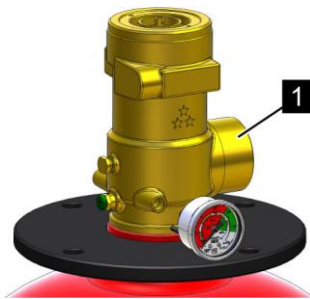

Fig. 148: Fit the anti-recoil cap
17. ➤ Fit the anti-recoil cap on the valve outlet (Fig. 148/1).